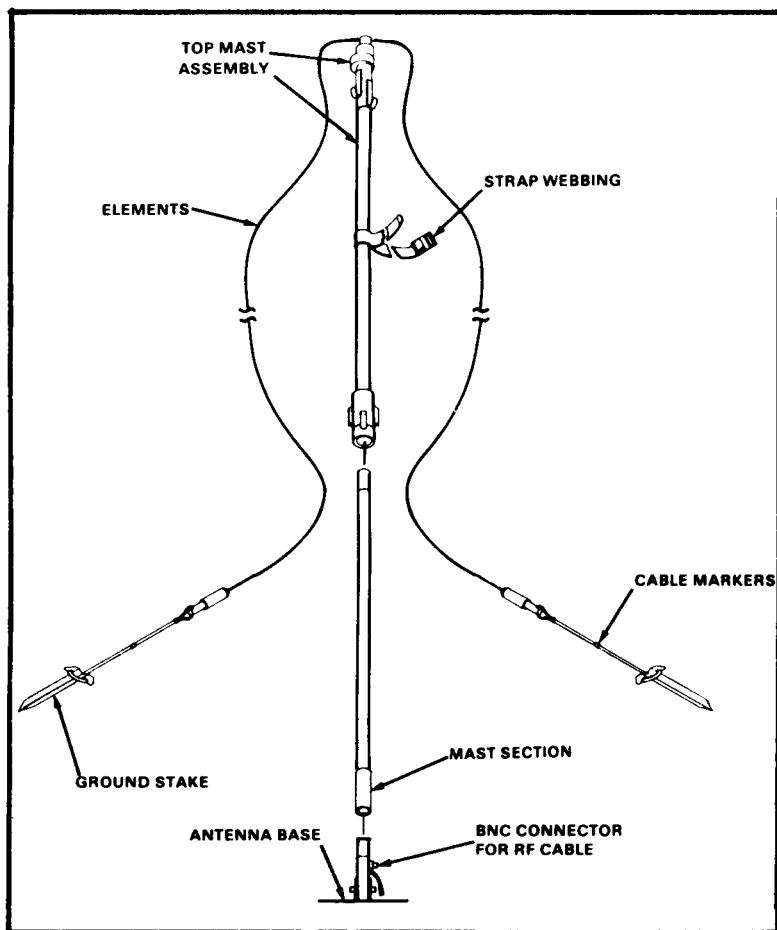

Figure 3-18. AS-2259/GR antenna base.
- e. Assemble mast by raising the top mast assembly vertical to the ground and by inserting each of the seven 22-inch sections into the bottom of the previous section. Continue to lift upward on the mast as each section is installed. Insert the bottom section of the mast onto the mast base (Figure 3-18) by lowering it into place.